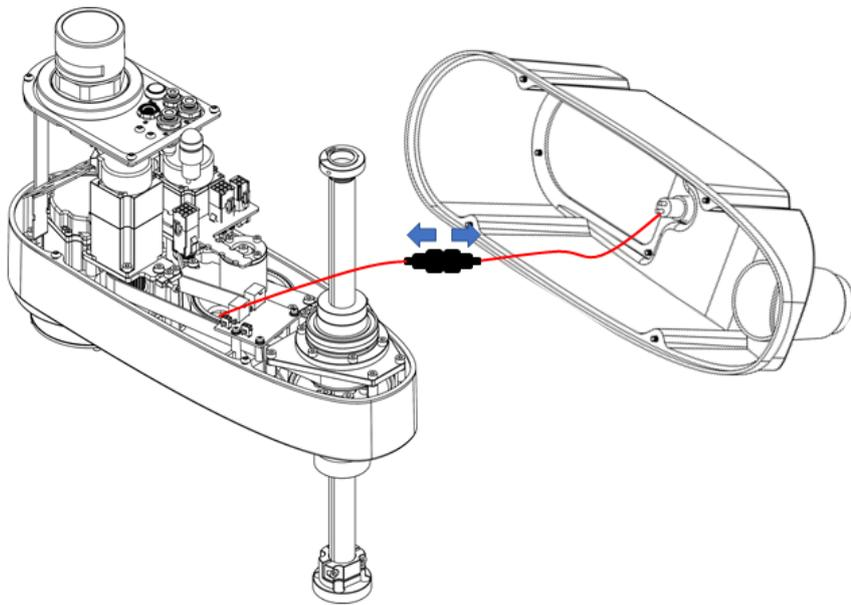

Figure 4-16 Connector of system indicator
Step 4 Disconnect the connector of the system indicator from the robot interface, and pull the shell to the other end in the direction of the bellows, as shown in Figure 4-16.